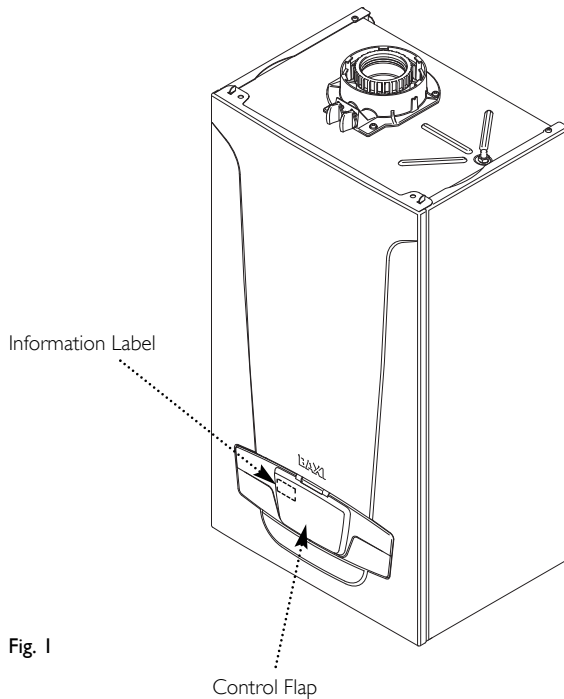

Fig. 1
6. The boiler model name and serial number are also shown on the information label behind the boiler control flap (Fig. 1). This is for user reference.